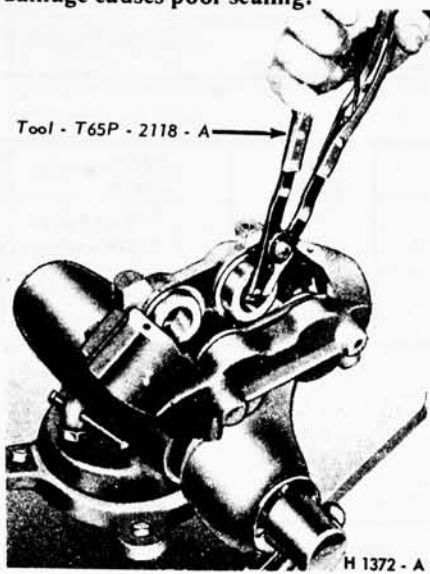

FIG. 20—Removing or Installing Pistons
7. Clamp the caliper in a vise and secure it by the mounting flanges on the inboard housing (Fig. 20).
8. Remove the four pistons from the cylinder bores with the special tool shown in Fig. 20. To prevent cocking with consequent damage to the piston or bore, rotate the piston with the tool while pulling it outward at the same time. Be careful to avoid scratching or damaging the outside
retaining groove face out of the bore. To avoid cocking, locate the piston squarely in the bore and apply a slow steady pressure. If a piston will not easily go all the way into the bore, remove it and thoroughly inspect the cylinder bore, the piston seal and the installation of the seal. If the piston still will not go in with bore in good condition and the piston seal properly installed, use the tool shown in Fig. 20. Rotate the piston with the tool while pushing it inward at the same time.